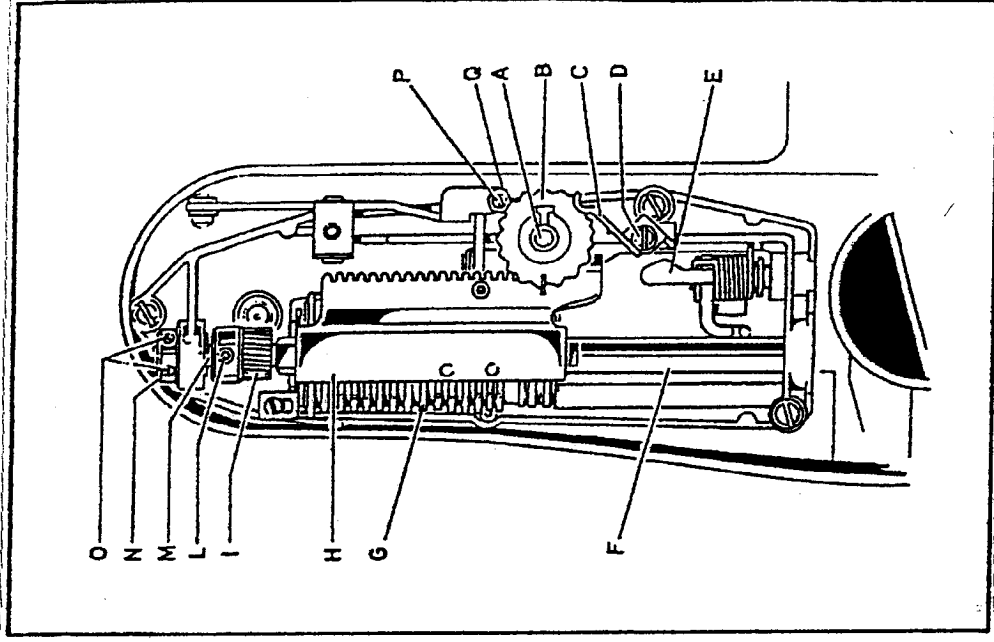
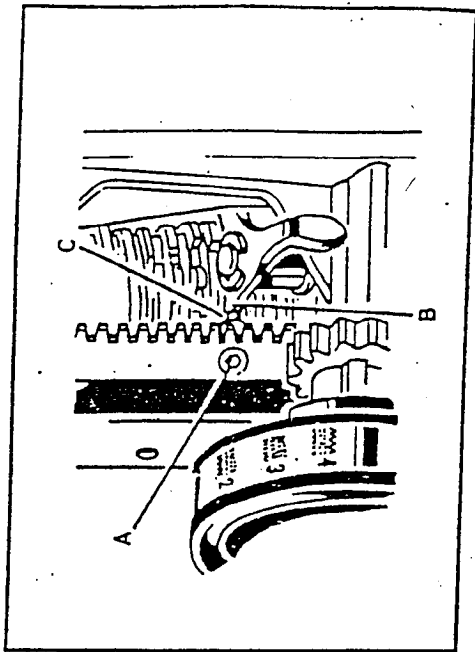

Fig. 2
Fig. 6
a) Disassembly of the zigzag automatic unit (fig.2)
- the following parts will remain assembled on the automatic device holding plate: contact finger B (fig.6) for needle displacement control and contact finger E (fig.2) for automatic feed control.
b) Assembly of the automatic and zigzag unit (fig.2)
- insert selector knob on pin A (fig.2) of cam displacing gear;
If this is not the case (see fig. 6):